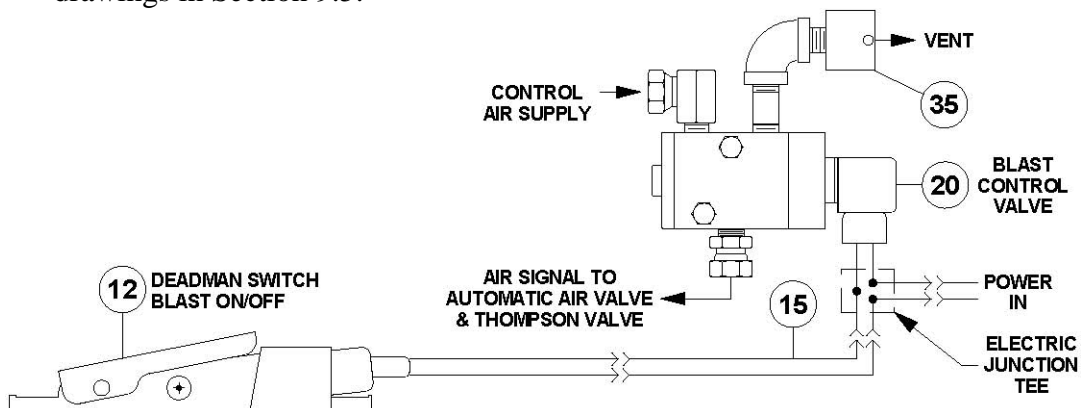

Figure 5.11 – Thompson Valve Electric Blast Control System
5.22.2. Electric Deadman System: When the electric deadman lever is pressed down it closes the electric circuit and supplies electric current to the control valve (#20). The control valve opens and sends air signals to the auto air valve (#9) and the Thompson Valve® (#14). When the deadman lever is released the electric circuit is cut off closing the control valve. The signal air vents from the breather (#35). See Figure 5.11 and the drawings in Section 9.5.